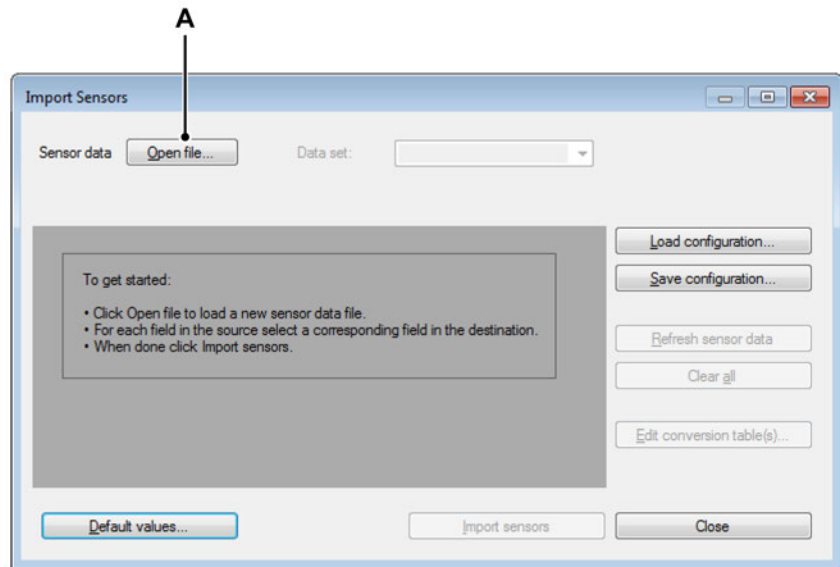

Figure 3.112: Import Sensors
- 3 Open the SensorData.xml file (see Figure 3.112).